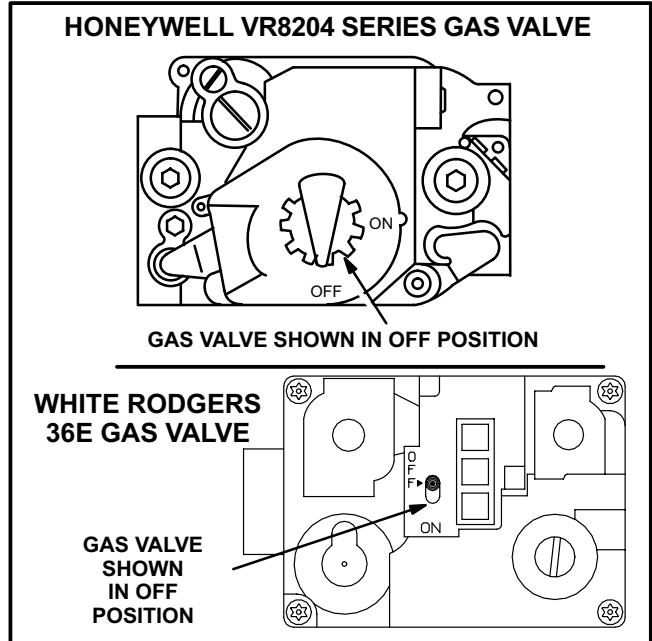

FIGURE 3
Gas Valve Operation (Figure 3)
- 6 - On Honeywell VR8204 gas valves, turn knob on gas valve clockwise to **OFF**. For White Rodgers 36E gas valves, move switch to **OFF**. Do not force. See figure 3.
- 7 - Wait fifteen (15) minutes to clear out any gas. If you then smell gas, **STOP!** Immediately call your gas supplier from a neighbor's phone. Follow the gas supplier's instructions. If you do not smell gas go to next step.